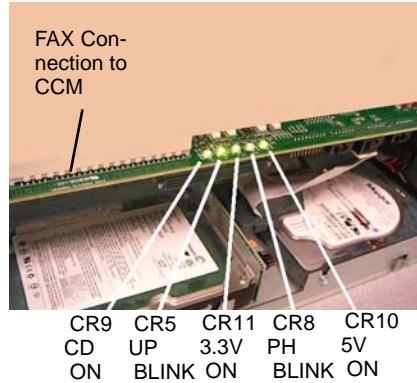

Figure 1 LED's on CCM PWB
- Check that FAX is securely connected to CCM in Controller (Figure 1). In the unlikely event the LED's are not illuminated as shown, go to the OF 1-8 Controller Boot RAP.